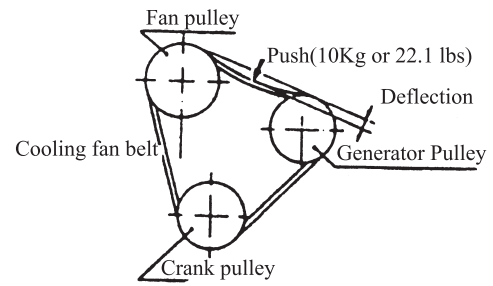

Fig.1-15
(1) Release a fixed generator bolts, remove it from the engine, adjust the belt tension. Belt tension of 10 ~ 15mm, (when the pressure is 10Kg pm) as shown in Figure 1-15.
(2) Adjusting finished, tighten the bolts fixed generators.